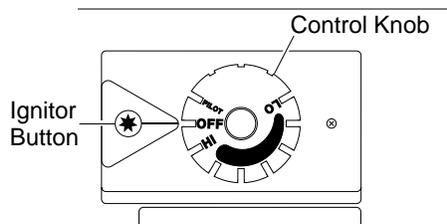

Figure 22 - Control Knob In The OFF Position
- Wait five (5) minutes to clear out any gas. Then smell for gas, including near the floor. If you smell gas, STOP! Follow "B" in the safety information at the top of column 1. If you don't smell gas, go to the next step.
- Turn control knob counterclockwise to the PILOT position. Press in control knob for five (5) seconds (see Figure 22).